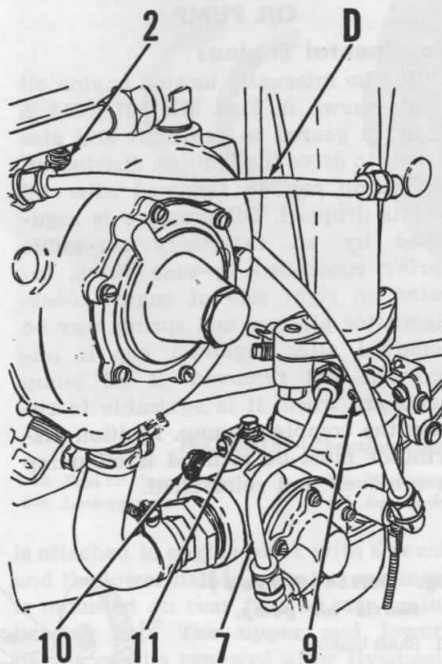

Fig. MH160—Model 44LP carburetor and regulator layout. Carburetor is Ensign model Xg, regulator is Ensign model W. Refer to legend under Fig. MH161.
The Ensign model Xg carburetor and model W regulator is used on the model 44LP tractors; model 55LP tractors are equipped with the model Xg carburetor and the model R regulator. Each combination has 3 points of mixture adjustment plus an idle stop screw. Refer to Fig. MH160 and MH161.
**81. ADJUSTMENT WITHOUT LOAD.** Average adjustment of the load screw (10—Figs. MH160 or 161) as recommended by Massey-Harris is 3 turns open for the 44LP and 3 1/3 turns open for the 55LP. However, to accurately set the load screw and regulator for the fuel and operating conditions as found in a certain locality, the Massey-Harris recommendations are as described in paragraph 82.
**82.** Disconnect idle line (D) at the manifold on the 44LP; at the regulator or economizer (whichever is the easiest) on the 55LP, and then plug the line and the connection. Set idle stop screw (9) on carburetor throttle to open butterfly valve about 1/4 open or to point where 1350 engine rpm is obtained. (Have hand throttle lever at quadrant forward so governor does not regulate idle speed.)